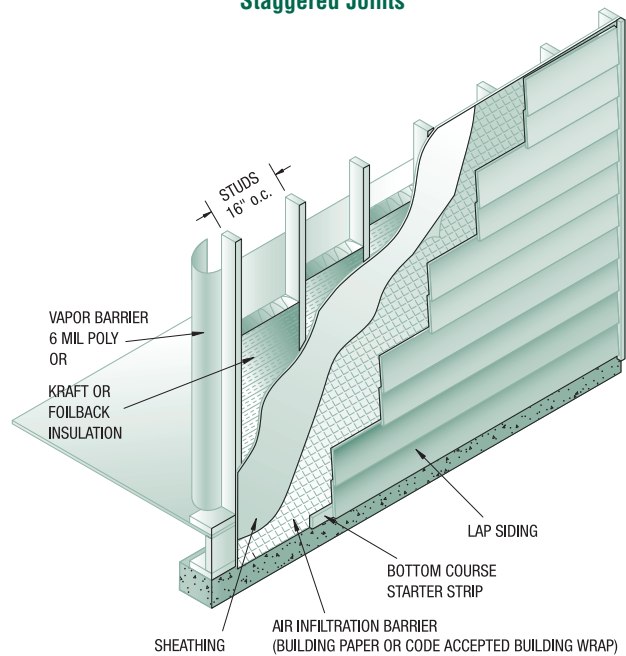

FIG. 7
- Stagger butt joints across wall (See Fig 7) making sure joints are on studs for required nailing. Gap joints 3/16" and use joint covers.